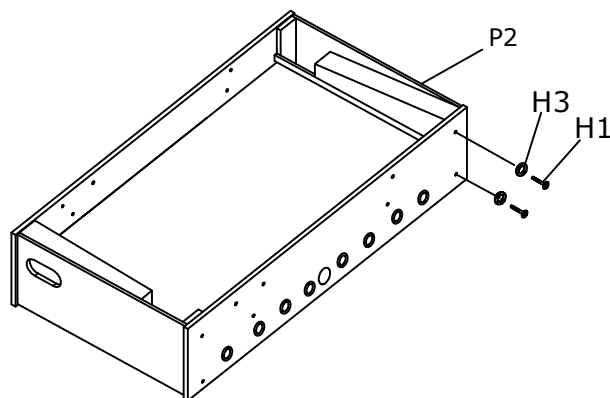

FIGURE 2
2. Attach the two end panels **P2** to the side panels **P1** as shown in **figure 2**. Remember the groove must face towards the playfield. Attach the end panels with bolts **H1** and washers **H3** into the pre-installed dowel connectors.